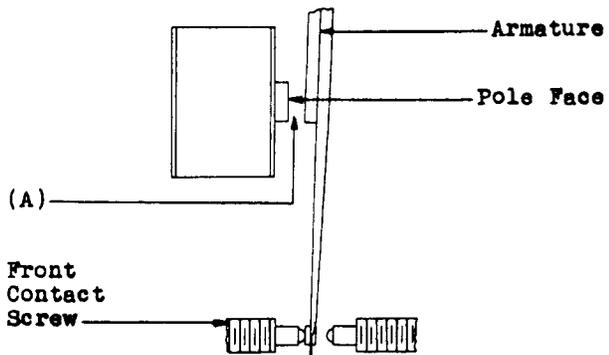

Fig. 6 - Operated Airgap
2.05 Operated Airgap: (Readjust Only) Fig. 6(A) - The airgap between the armature and pole face, when the relay is electrically operated on the specified operate current, shall be